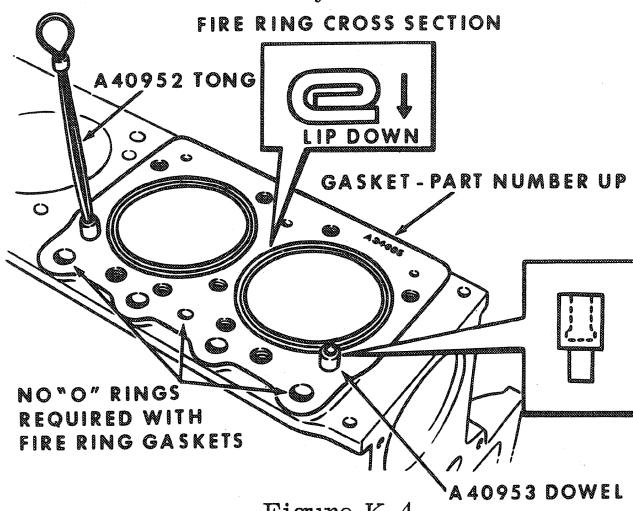

Figure K-4
7. Install the fire rings with the lip downwards, Figure K-4. **NOTE** Fire ring gaskets must be installed dry.